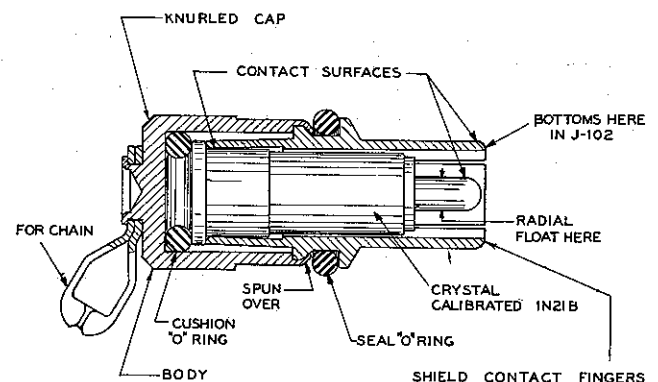

Fig. 5-1. Crystal Unit, Rectifying CAWY-40322
Fig. 5-1 shows the mounting of the crystal diode in its holder. Refer also to Section 2, Paragraph 6 and 8.
a. The SEAL "O" RING, Fig. 5-1, should be checked semi-annually and kept lubricated very lightly, with Dielectric Compound A-N Aeronautical Spec. AN-C-128, (Aviation Office Stock Catalog Number R52-C-3107-123 for an 8 lb. can; R52-C-3107-125 for a 10 lb. can.) Lubrication will prevent excessive friction when changing ranges.
c. In an **EMERGENCY** where the wattmeter must be used and both crystals supplied with instrument have been damaged or lost, any 1N21B crystal may be used in the wattmeter with a probable error ranging up to 20%. See Section 2, Paragraph 9. To remove crystal from the holder (See Fig. 5-1) remove the seal "O" ring and file off the lip marked "Spun Over". If a drill press or lathe is available chuck the knurled cap and file while the holder rotates. The new crystal may then be used in the body of the crystal holder without the knurled cap.